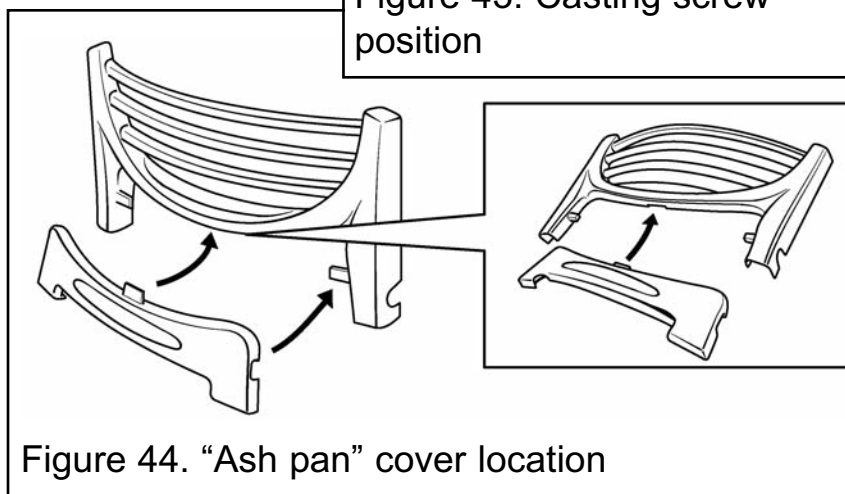

Figure 44. "Ash pan" cover location
14.5.3 Fit the "ash pan" cover below the front casting locating it as shown in figure 44.